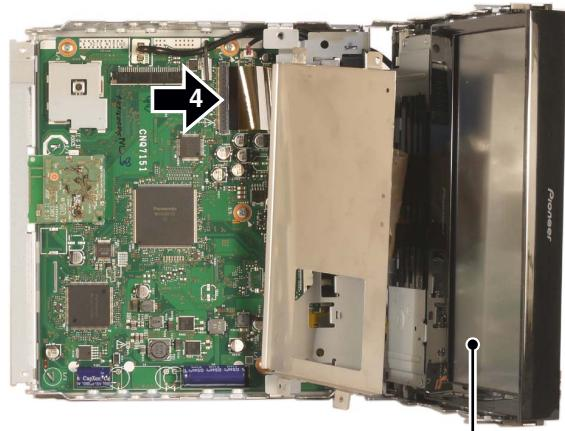

Fig.3
**A** ● **Removing the DVD Mechanism Module and the Display Module Unit (2/2) (Fig.3)**